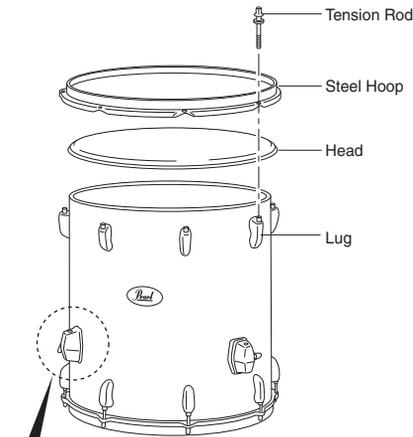

Fig.5
2. Line up the ears of the Steel Hoop over the Lugs. Insert the Tension Rods through the ears of the Steel Hoop and finger-tighten them into the Lug Nuts as shown in Fig. 5.
4. If your set has a floor tom, attach the Floor Tom Legs to the Floor Tom Leg Brackets as shown and set the height and tilt to your preference (Fig. 5 , 6).